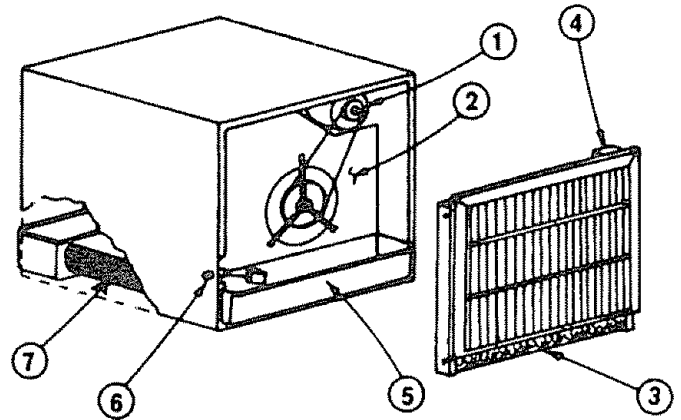

FIGURE 14
Your new cooler has a motor (1) driven blower (2) which draws outside air through pads (3) which are turned by drive motors (4). The pads turn through water in trays (5) filled by the water float valve (6) and water crossover pipe (7). Air passes through the pads, is cooled by water evaporation, and is sent into your home. (Figure 14)